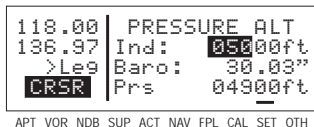

Figure 4-66
2. Enter the altitude indicated on the aircraft's altimeter (**Ind:**) to the nearest hundred feet by using the right inner knob to select the desired value (figure 4-66).